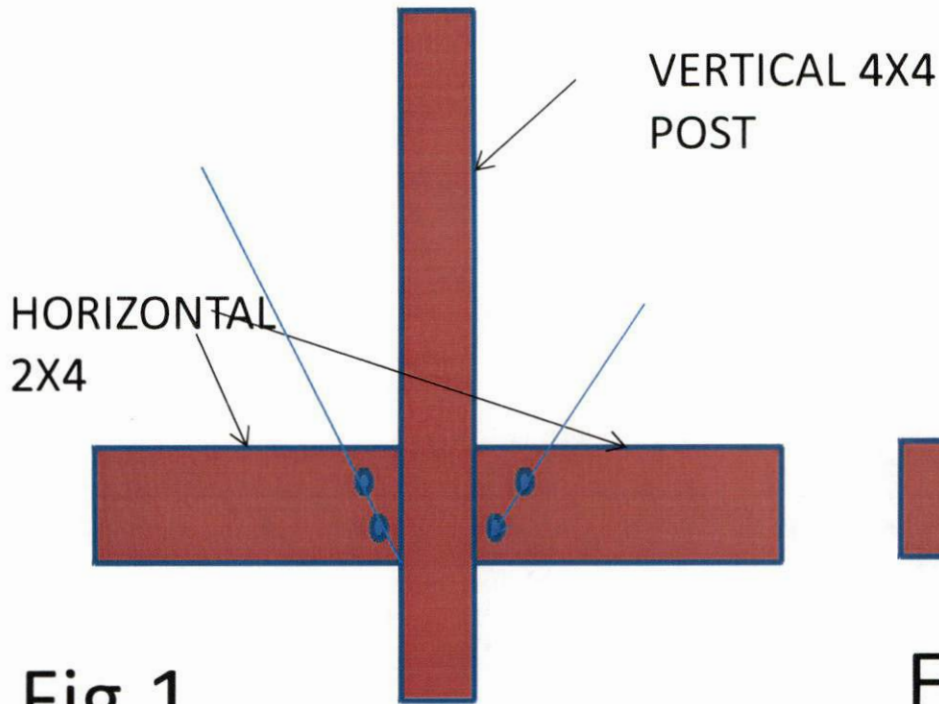

Fig.1
1. Do not butt horizontal 2x4 and toe nail to 4x4 post as shown in Fig.1